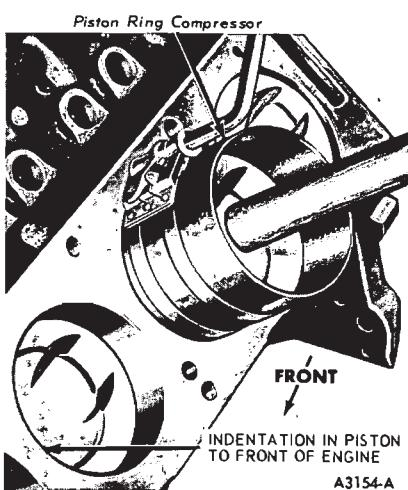

FIG. 37—Typical Piston Installation
4. Oil the piston rings generously. Then install a piston ring compressor on the piston and push the piston in with a hammer handle until it is slightly below the top of the cylinder (Fig. 37). Be sure to guide the connecting rods to avoid damaging the crankshaft journals. Install the piston with the indentation in the piston head toward the front of the engine.